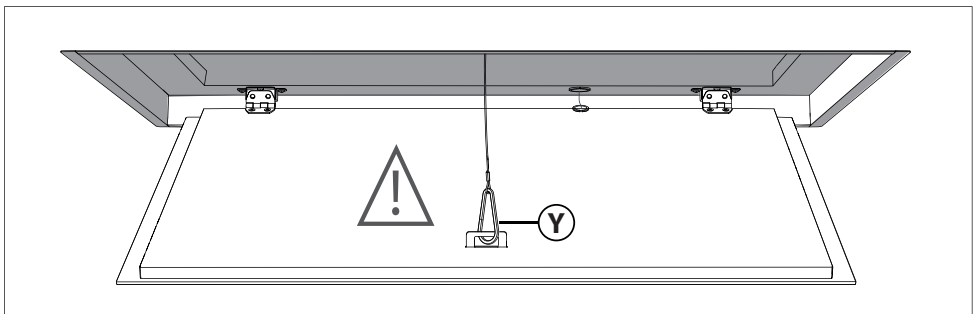

Fig.12
- The safety carabiner Y must always be inserted in its slot when the panel is closed (Fig. 12).